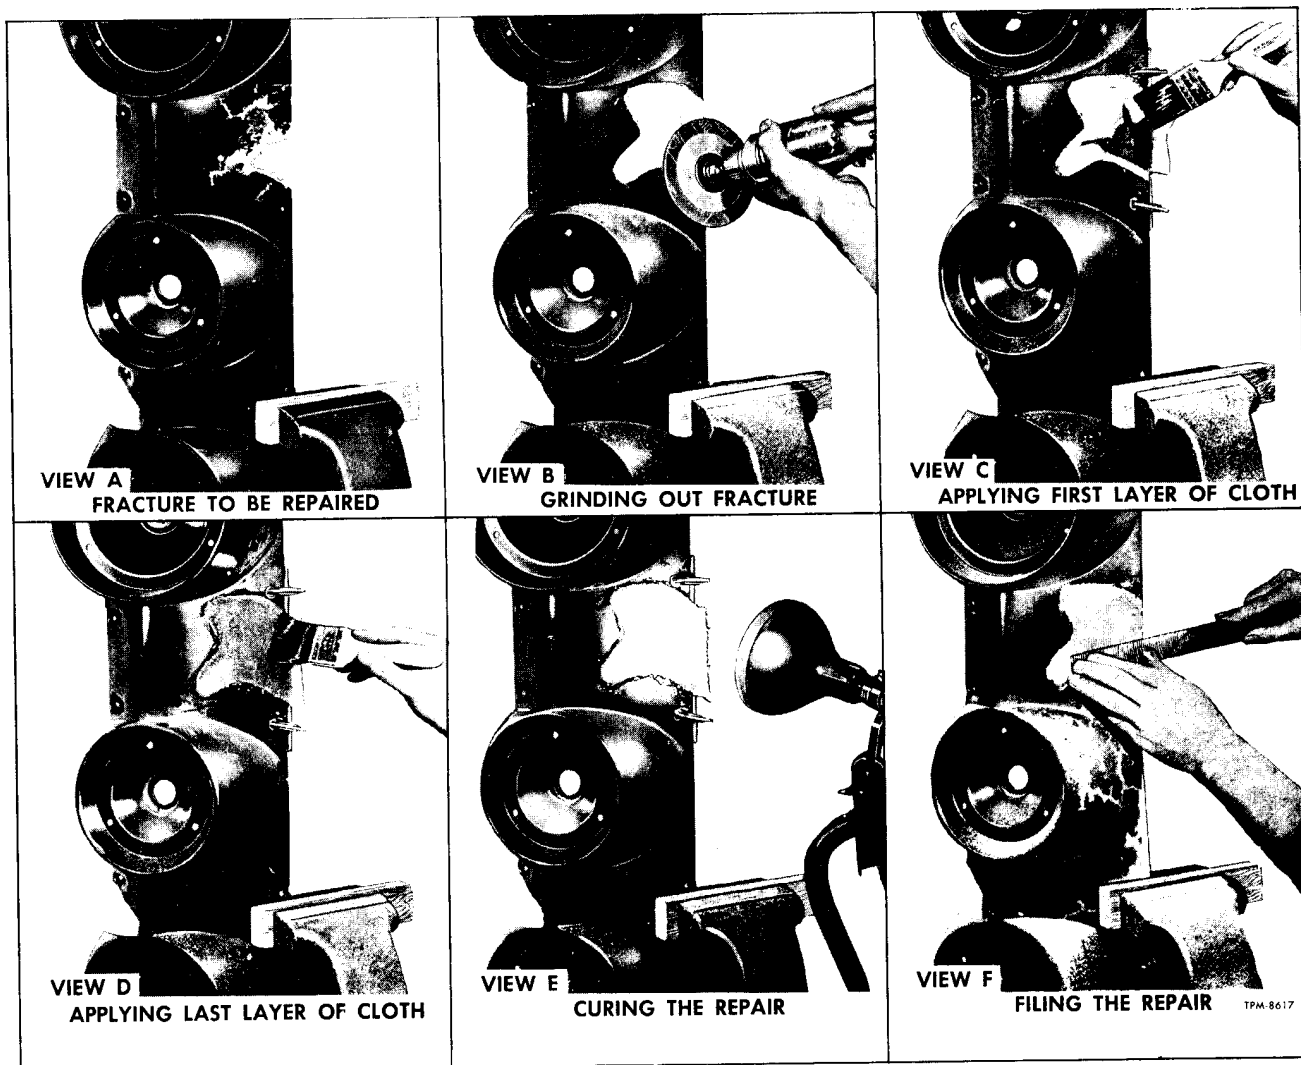

Figure 1—Fiber Glass Repair Views
1. Examine the repair area for hidden damage. Apply pressure by hand around the area. View A, figure 1 shows a fractured fender.
3. Grind or file the damaged area to form a "V" at the broken or cracked portion (View B, fig. 1). Side of "V" should have a shallow pitch for
5. If paneling is warped from original shape use "C" clamps and improvised clamp plates to align surfaces (View C, fig. 1).
9. Saturate layers of fiberglass with mixture, then place laminates over damaged area (View C, and D, fig. 1). Smooth out wrinkles and make sure general contour of area is maintained. Wrinkles can be rolled out using a roller.
10. Apply heat to applied resin material. Again place lamps 12 to 15 inches from repair area (View E, fig. 1). Allow 15 to 20 minutes for repair to cure.
11. After the repair is cured, grind, file or sand to contour (View F, fig. 1). Files other than body files may be more suitable. Feather edge and finish sand.